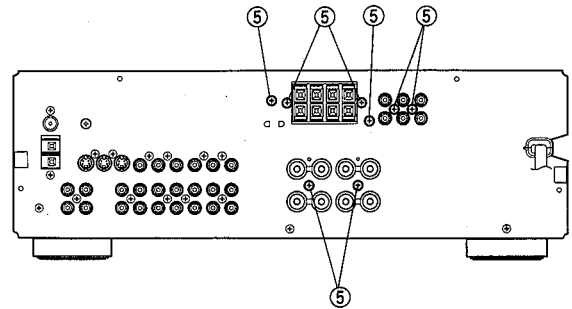

Fig. 2
- b. Remove 8 screws (⑤) in Fig. 2.